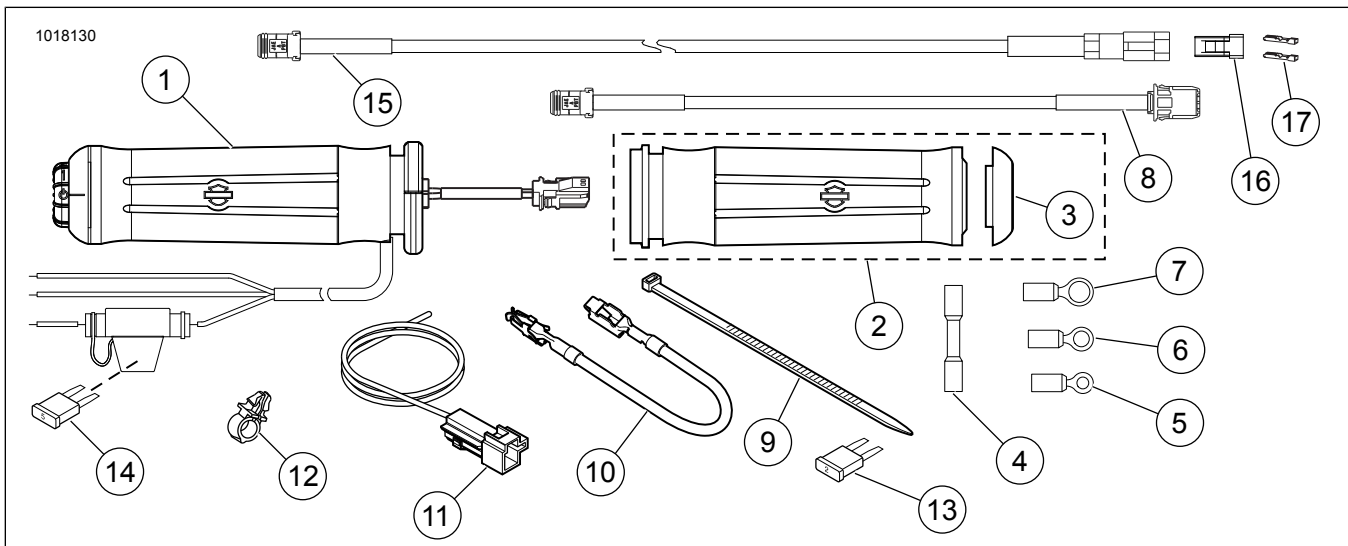

Figure 8. Service Parts, Heated Hand Grip Kits
2. See Figure 8. Use cable straps (9) from the kit to fasten the hand grip wiring to wire harnesses along the vehicle frame.